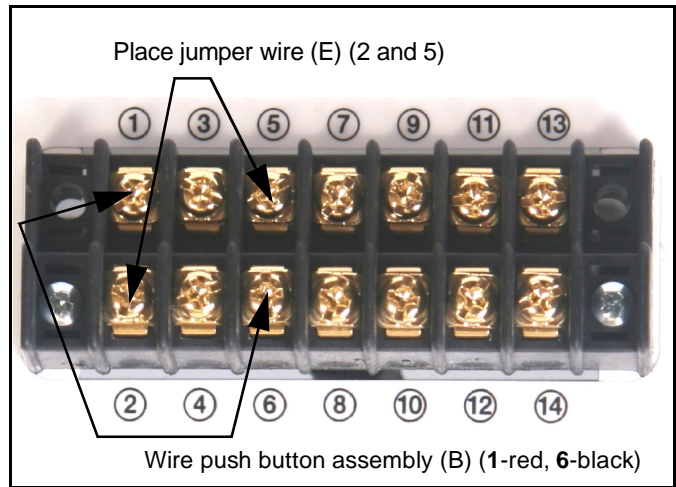

Figure 3
6. Place the jumper wire (E) on the external wiring terminal contacts labeled 2 and 5, and wire the push button assembly (B) to contacts 1 (red) and 6 (black). (See Figure 3).